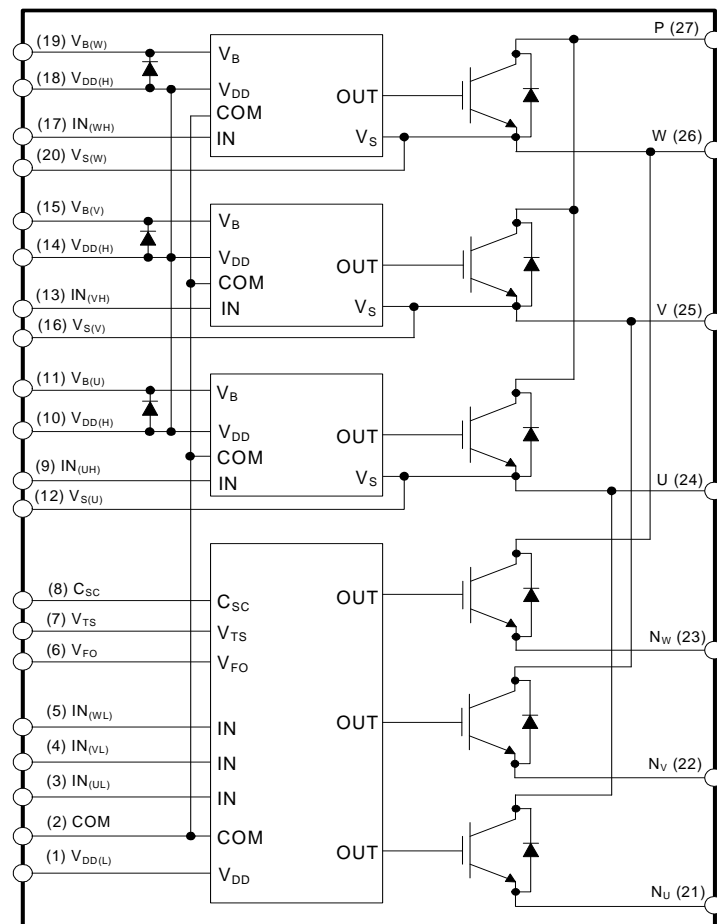

Figure 3. Internal Block Diagram
- 600 V - 50 A IGBT inverter for three-phase DC / AC power conversion (Please refer to Figure 3)